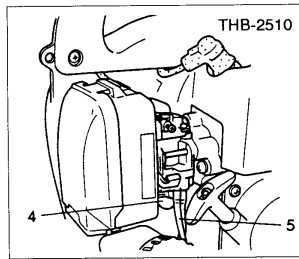

Fig. 2-3
- Push priming bulb (4) several times so that fuel flows through return pipe (5) (if so equipped) (Fig. 2-3, 3B)